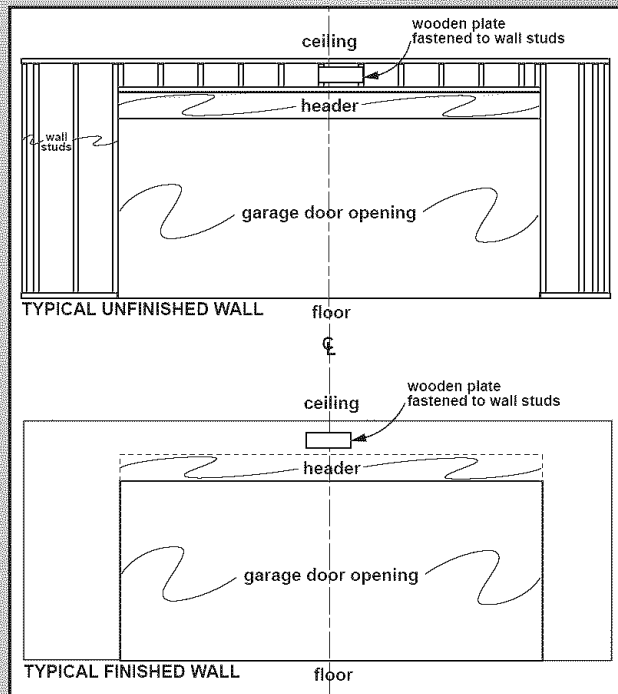

Fig. 2-5
4. Check mounting location for strength. Header bracket must be attached to framework of garage. Fig. 2-5.
- Fig. 2-5.**
- If your marked mounting location is not solid, a mounting plate must be installed and mounting location remarked before continuing. **Fig. 2-7 and Fig. 2-5.**